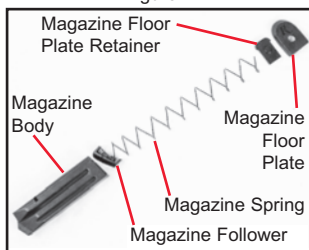

Figure 25
8. Remove the Magazine Floor Plate Retainer, Magazine Spring, and Magazine Follower from the bottom of the Magazine Body. See Figure 25.
6. Insert the Magazine Follower, Magazine Spring, and Magazine Floor Plate Retainer into the bottom of the Magazine Body. See Figure 25 for proper spring orientation.